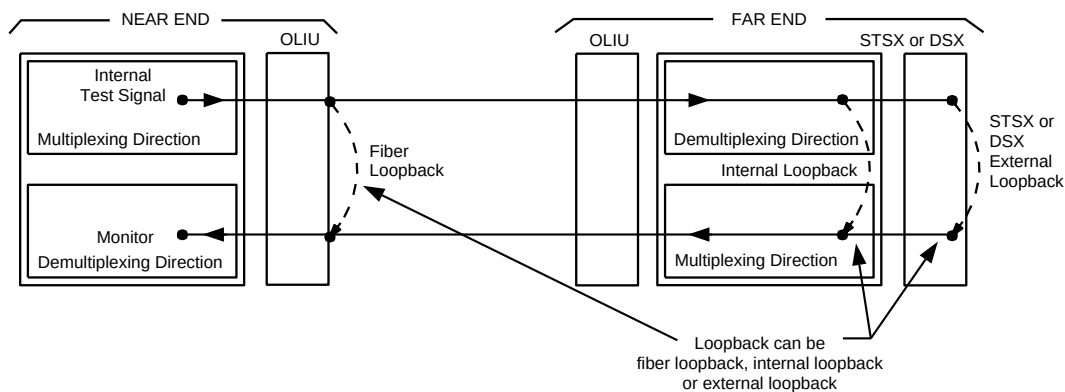

Figure 1. Transmission Test of DS3 Signal in MUX Direction
6. See Figure 1. If local tests are being performed, the fiber loopback at the near-end **OLIU** must be in place. If end-to-end tests are being performed, do ONE of the following:
22. See Figure 1. If local tests are being performed, the fiber loopback at the near-end **OLI** must be in place. If end-to-end tests are being performed, at the far-end DSX-3 or STSX cross-connect point associated with the DDM-2000 being tested, connect a patch cord from the **OUT** jack to the **IN** jack for the DS3 channel to be tested.